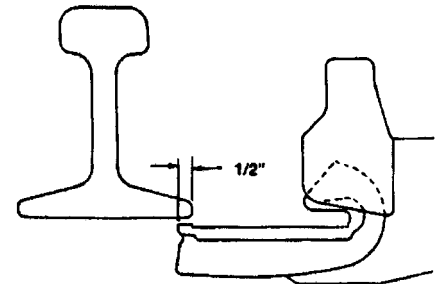

Figure 57B
2. With the machine in **MANUAL Mode**, lower Clamp Arm and move the Jaw Arm in until the anchor extends 1/2-inch under the rail base as shown in Figure 57B.